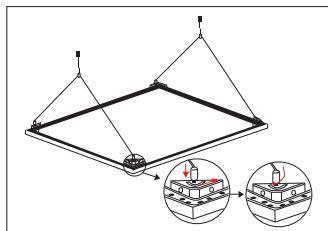

Figure 1
1. Lock the lockparts of the wire rope branching to the back panel light. (Figure 1)